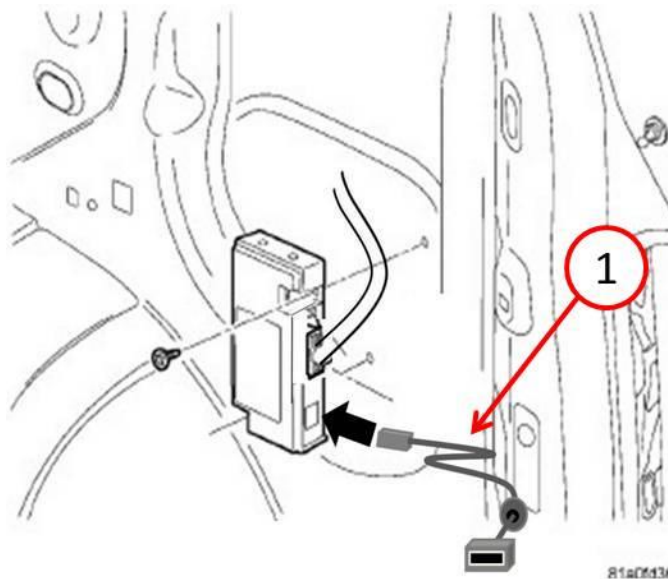

Fig. 11 USB Harness Connection
- 3. Connect the USB harness as shown in (Fig. 11).